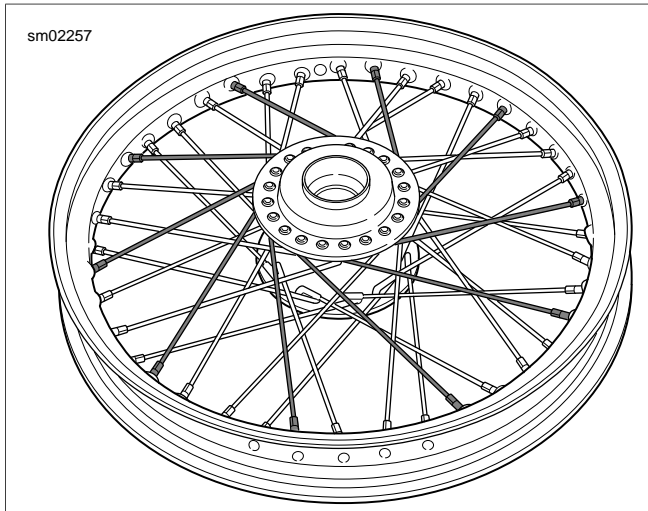

Figure 2-42. Completed Spokes: Top Flange Outer
19. See Figure 2-42. Verify spoke reaches spoke nipple and secure spoke by hand. Follow pattern to complete top flange outer spokes (short head).